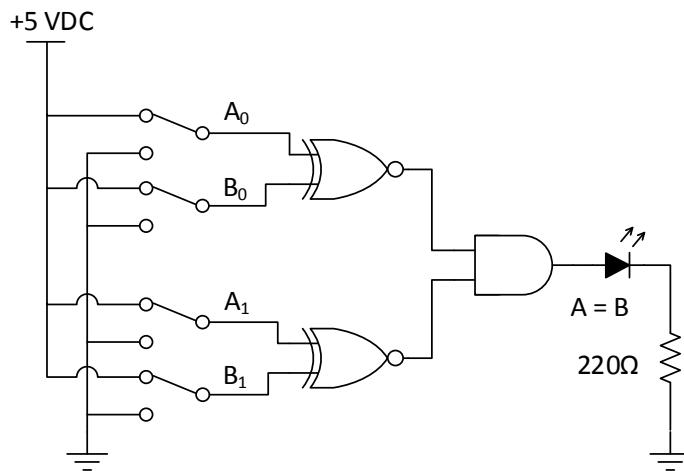

Figure 14: Two-bit Equal Input Magnitude Comparator Circuit
1. Connect the circuit as shown in Figure 14.